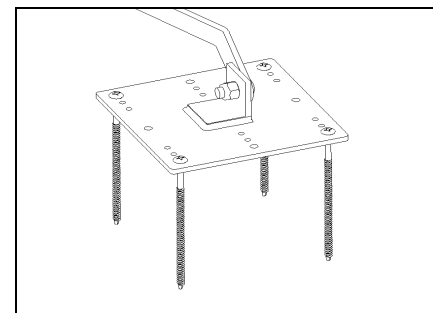

FIG. 3
NOTE: Regardless of actual pullout values obtained during testing; Always use a minimum of Four (4) fasteners, located at the corners of the SRMF-2 Screw-On Foot (See FIG. 3). Failure to comply may subject fasteners to a bending load for which they were not designed, and could render the **RoofStrider** System unable to arrest a fall!